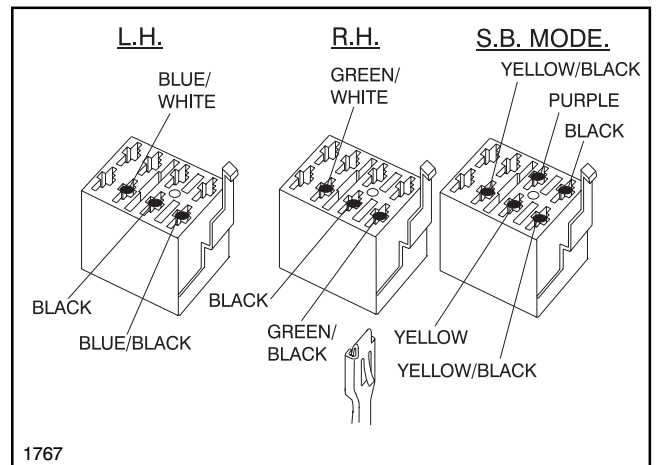

FIG. 7
d. Install the terminals/wires into the sockets of the new Connector Housings, provided, as shown in FIG. 7. Places all the wires from each group into a single Connector Housing. Orientate the terminals as shown in FIG. 7, with the Tangs facing in the direction of the Locking Arm. Firmly press the terminals into the sockets.